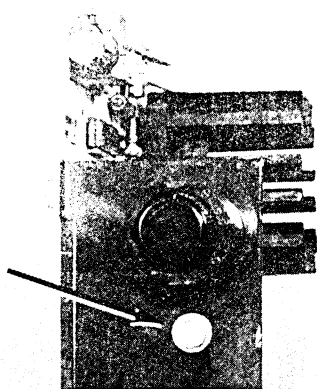

FIGURE 13
02.22 Unwrap the PBPU. Remove and save the screw located in the mounting bracket (Figure 13).